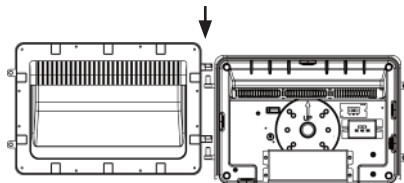
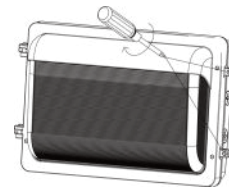

Fig. 2.6
Fig. 2.7
6. Attach the front cover of the luminaire back to the mounting plate (Fig 2.6) and tighten both screws on the side of the luminaire (Fig 2.7).